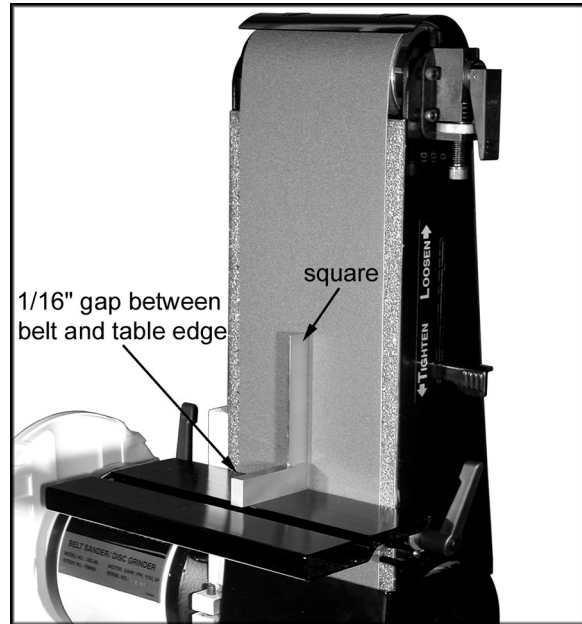

Figure 4
1. Place a square on the sanding belt table with one edge along the graphite pad, or sanding belt (Figure 4).